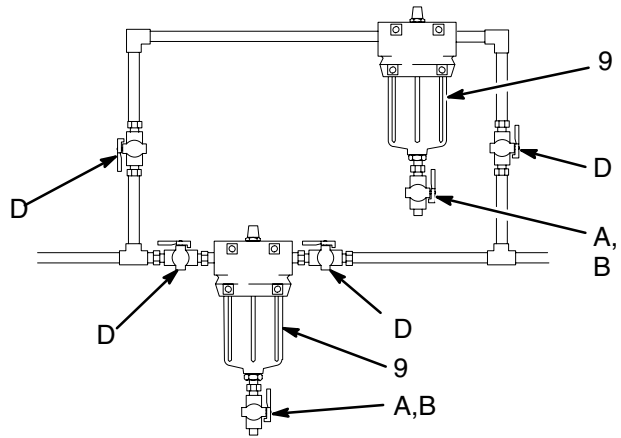

Fig. 1
The numbers and letters in parentheses refer to Figs. 1, 2, and 3 and the Parts Drawing. **Accessories** and **Technical Data** are on the front page.
Remove the 1/4 npt plug from the bottom of the filter and install an adapter and drain valve (A,B). See Fig. 1.
Install two filters as shown in Fig. 1. Install four suitable shutoff valves (D), one at each filter and outlet, to redirect the fluid and isolate the filter not in use.